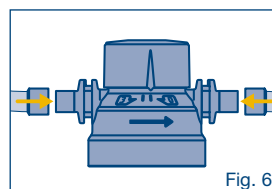

Fig. 6
3. mount and connect the adapters/hoses to the filter head (consider the bending radius of the hoses) (see Fig.6)